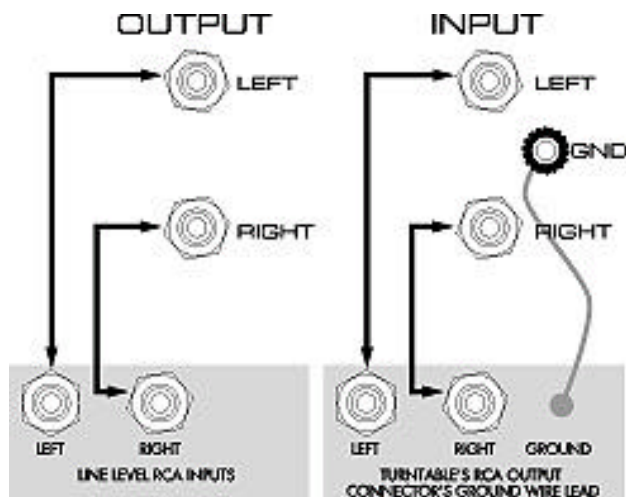

Figure 4 - Connections to the RCA Outputs and Inputs of the SFP-1 Phono Stage.
Connect the turntable's left and right RCA outputs to the corresponding left and right RCA Inputs (G) on the SFP-1 using a suitable length of interconnect. Also connect the ground lead from the turntable to the Ground Post (H) on the SFP-1 (see Figure 4).
Using your favorite interconnect, connect the left and right channel RCA (Single-Ended) Outputs (F) of the SFP-1 to the corresponding left and right channel line level audio inputs of the system's preamplifier, control amplifier, integrated amplifier or receiver (see Figure 4). We recommend no more than 3' (1m) of interconnect for best results.